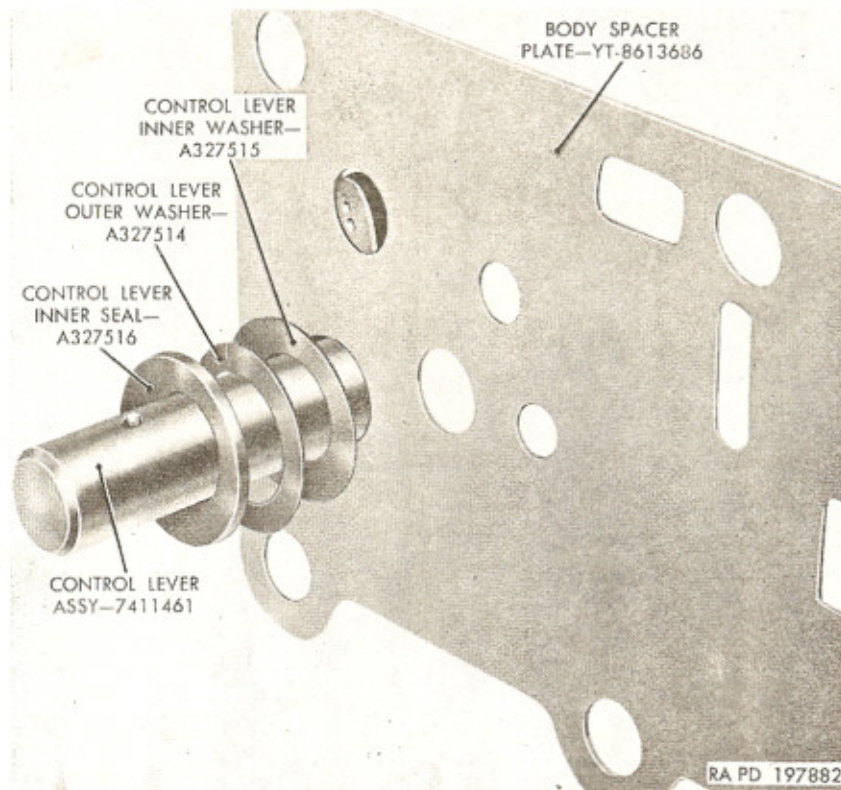

Figure 157. Washers and seal positioned on control lever shaft.
j. Position control lever inner washer (K) (small hole) dished side up, control lever outer washer (J) (large hole) dished side down, control lever inner seal (H) flat side up on shaft of control lever assembly (L). Refer to figure 157.
k. Position new cover gasket (A) on cover (B); then install body spacer plate (U) and control lever assembly (L) in cover (B).
l. Install O-ring gasket (G) and control lever washer (E) on shaft of control lever assembly (L).
m. Install new control lever pin (F) through hole in shaft of control lever assembly (L).